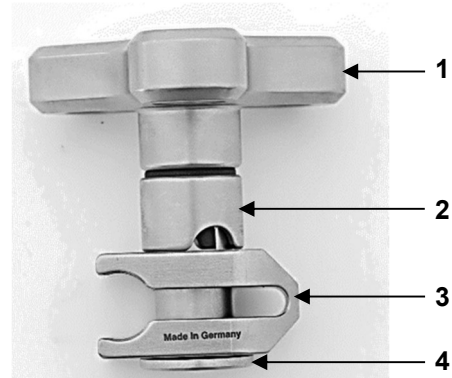

Fig. 5: Cross connector EEN-4
Figure 5 depicts the cross connector EEN-4. This consists of a star grip (1), a clamping sleeve (2), a clamping piece (3) and a threaded rod (4). The cross connector is to be assembled as follows prior to application.